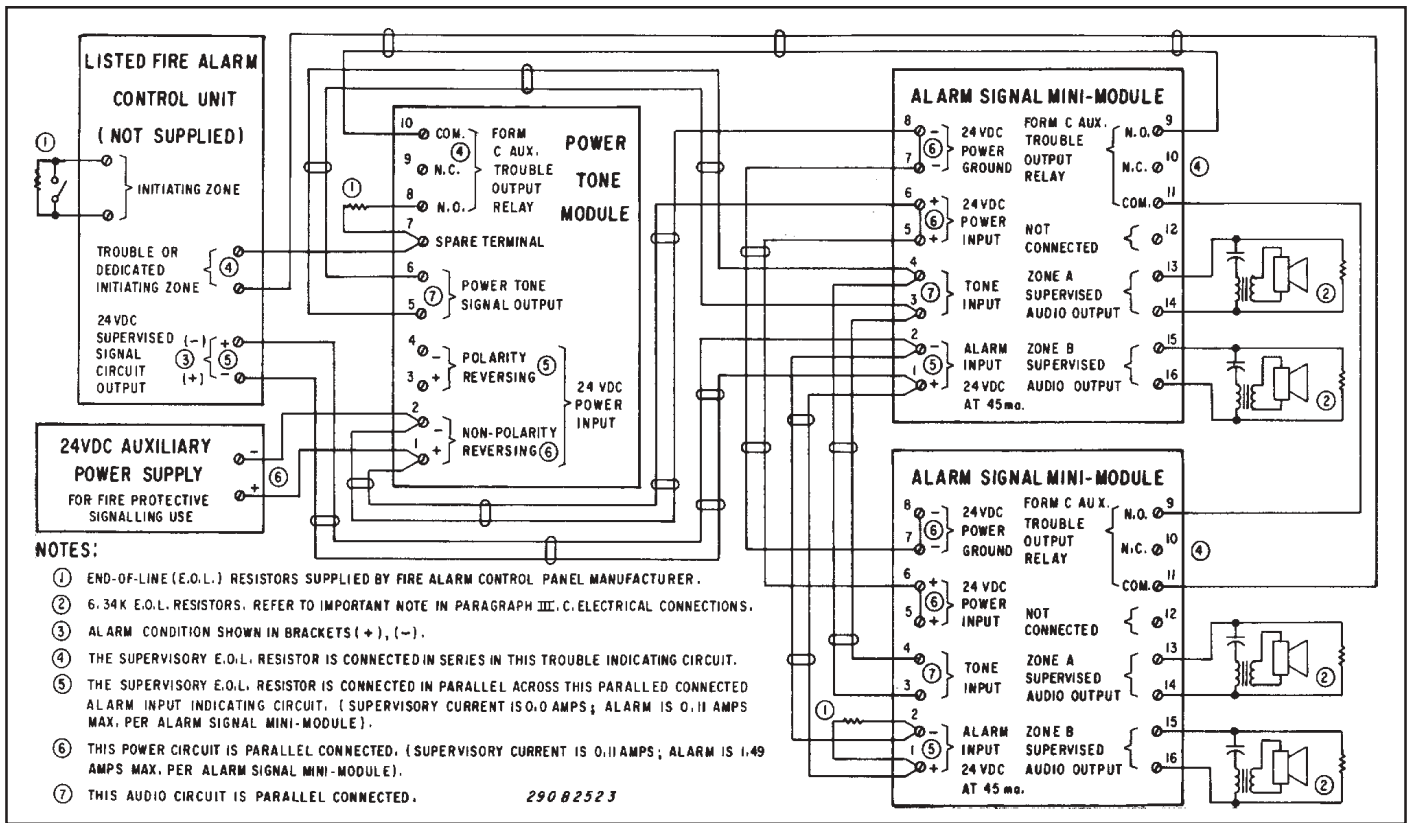

Figure 4.
If more than one Mini-Module is required per Power Tone System, use figures 4 and 5 as a guide to wire the system.
3. See figures 4 and 5 when more than one Alarm Signal